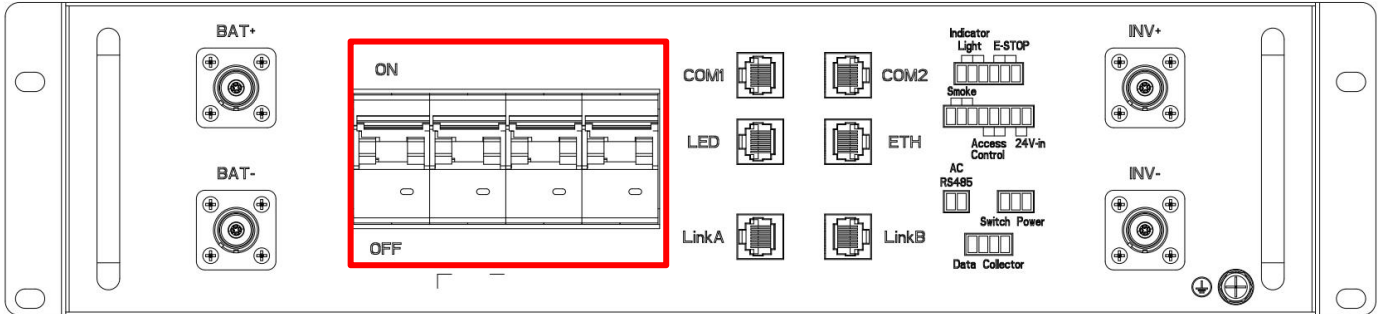

Figure 6.2.2.1 Opening the Air Circuit Breaker
Step 1: Open the front door and set the control box circuit breaker to the ON position (Figure 6.2.2.1).
Step 2: Press the POWER button on the front door for 3 seconds. The green operation indicator will flash steadily once per second until the battery completes startup (Figure 6.2.2.2).